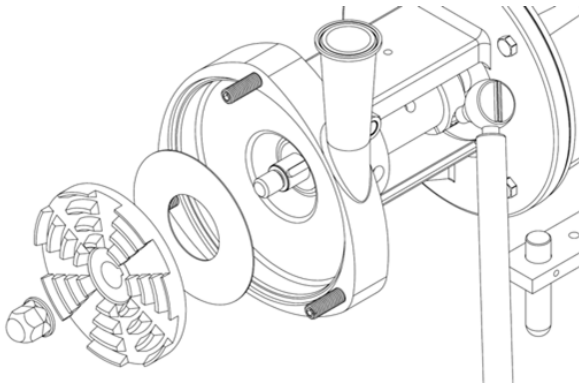

Figure 21
4. With the seal driver, the thinnest shim (SB models), and key on the stub shaft, slide the clearance shim and impeller on to the stub shaft and tighten the impeller nut on the stub shaft, Figure 21. While pushing the impeller nut, impeller, and shaft collar towards the motor slightly pinching the impeller clearance shim, tighten the socket head cap screw in the shaft collar. Torque the socket cap screw to the right torque value that correlates to the frame size of the motor. When the shaft collar screw is not torqued to the correct value the shaft may move during pump operation although the shaft cannot be moved by hand along the motors axis. Torqueing the shaft collar screw more than the recommended value may break the screw.